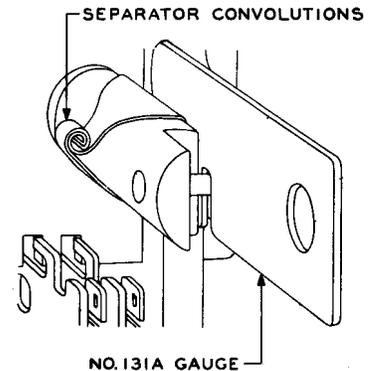
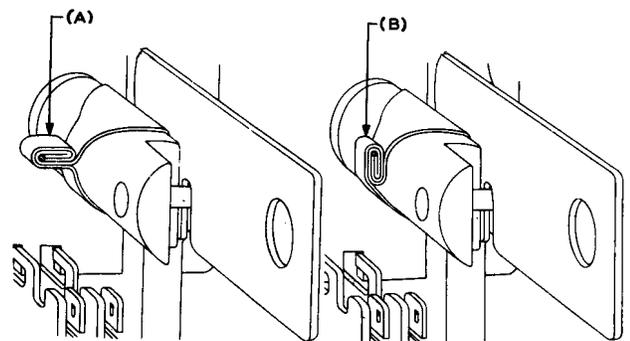

Fig. 6 - D-167911 Separator Convolution After Removal of D-167912 Separator Adjuster
Fig. 7 - Flattening of Separator Convolution
firmly wound together concentrically and the separator fits snugly all around the core as shown in Fig. 6. With the relay still energized, lift the gauge off the stud and with a rotary motion move it up and down between the armature and the separator two or three times to flatten out the entire surface of the separator against the pole face. Again rotate the adjuster to insure that the separator is tight. Then hold the separator in place with a finger tip and withdraw the adjuster. Flatten the convolutions of the separator with the No. 485A pliers as shown at (A) Fig. 7; then fold the flattened convolutions in a clockwise direction with a finger or the orange stick against the rear of the core as shown at (B) Fig. 7. Again rotate the No. 131A gauge. Release the relay and remove the gauge.
(4) After mounting the separator, check the relay for armature travel, stud gap, contact make, contact separation, and electrical requirements as covered in Section 040-522-701.